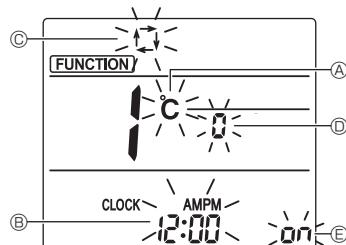

Fig. 7-10
- Check that function No. "1" is displayed, and then press the Ⓛ SET button Ⓔ. The display setting screen will be displayed. (Fig. 7-10)